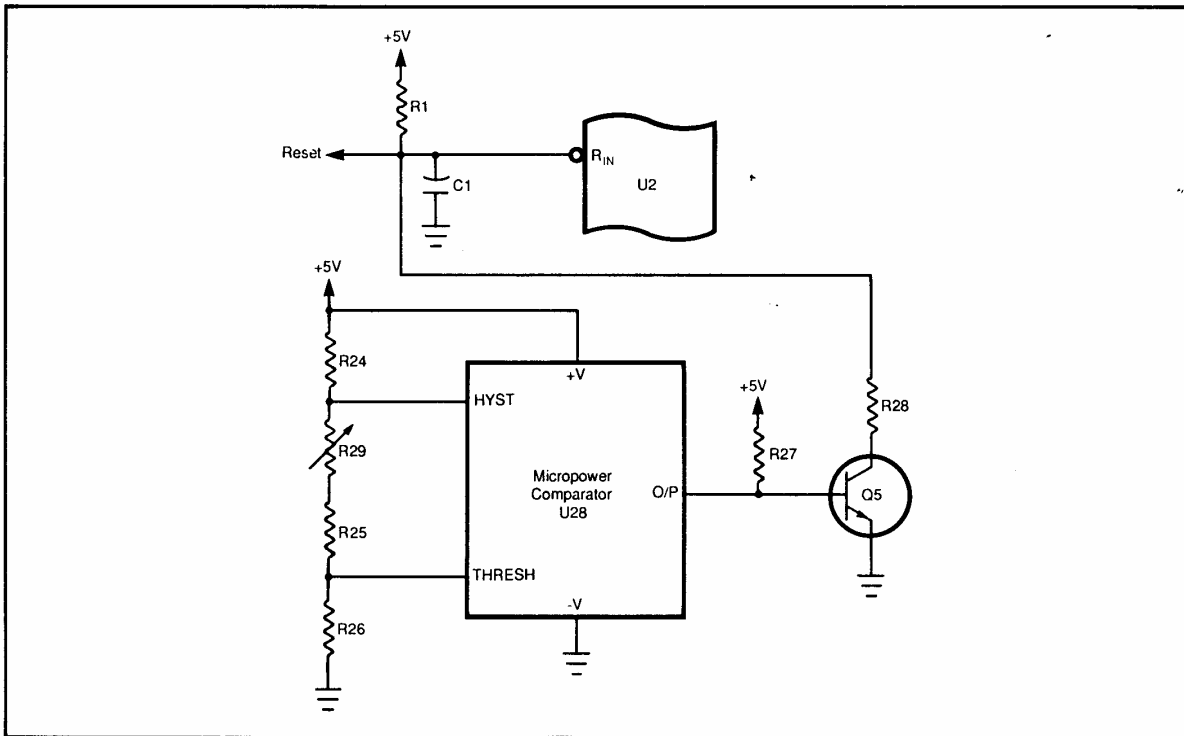

Figure 8-64. Microprocessor Control Circuit
1. μP Control. This section stops the μP from making any further memory accesses when a power failure is detected on the 5V rail. It consists of micropower comparator U28, transistor Q5, and associated components (Figure 8-64).